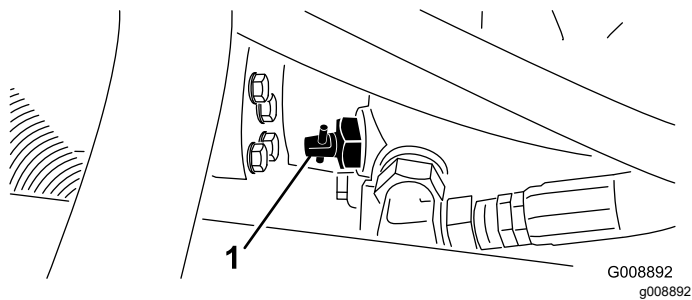

Figure 32
- 1. Locate the bypass valve on the pump (Figure 32) and rotate it 90°.